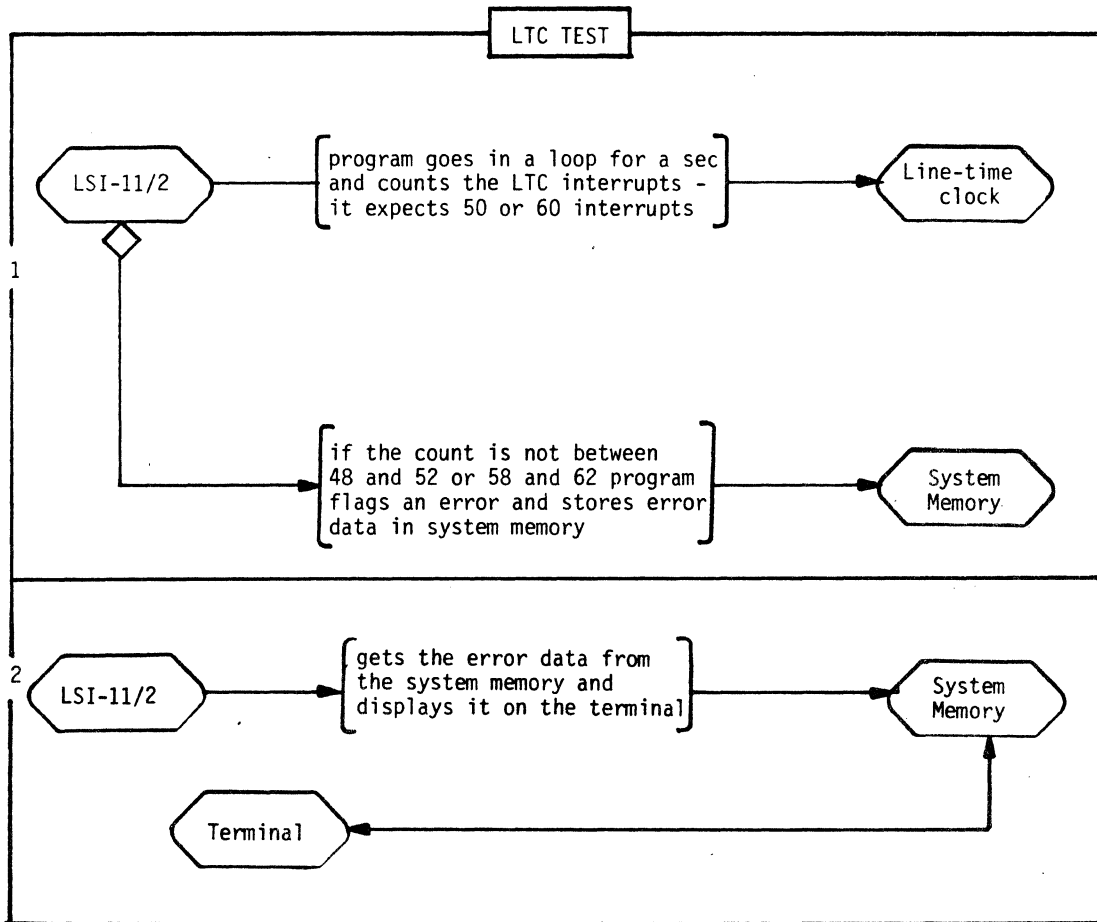

Fig. 4-10. LTC test.
1. INITIALIZE INTERRUPTS (Fig. 4-10). The LTC test initializes the interrupts and enters a loop for one second. During that time each line frequency cycle generates one interrupt in the line time clock. The program counts these interrupts. After one second, the program compares the counted interrupts against the specified number in the program. The test accepts interrupt counts between 48 and 52 (for the 50 Hz line frequency) and between 58 and 62 (for the 60 Hz line frequency). If the interrupt count does not fall within the specified ranges the program exits.